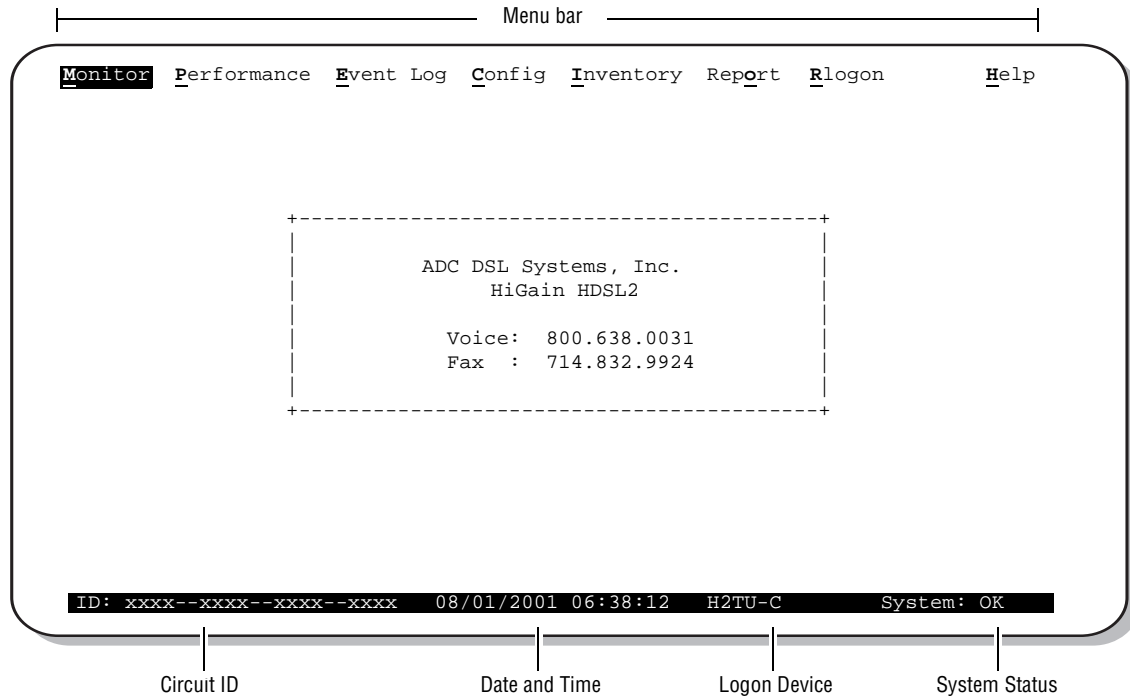

Figure 3. Logon Screen
- Use a maintenance terminal, such as an ASCII terminal or a PC running terminal emulation software, connected to the H2TU-C craft port or an HMU craft port to access the maintenance screens. Figure 3 on page 13 shows the maintenance screen. This provides full access to all H2TU-C status, history, inventory, and provisioning screens.
To select a menu from the HiGain HDSL2 logon screen, shown in Figure 3 on page 13, do one of the following: